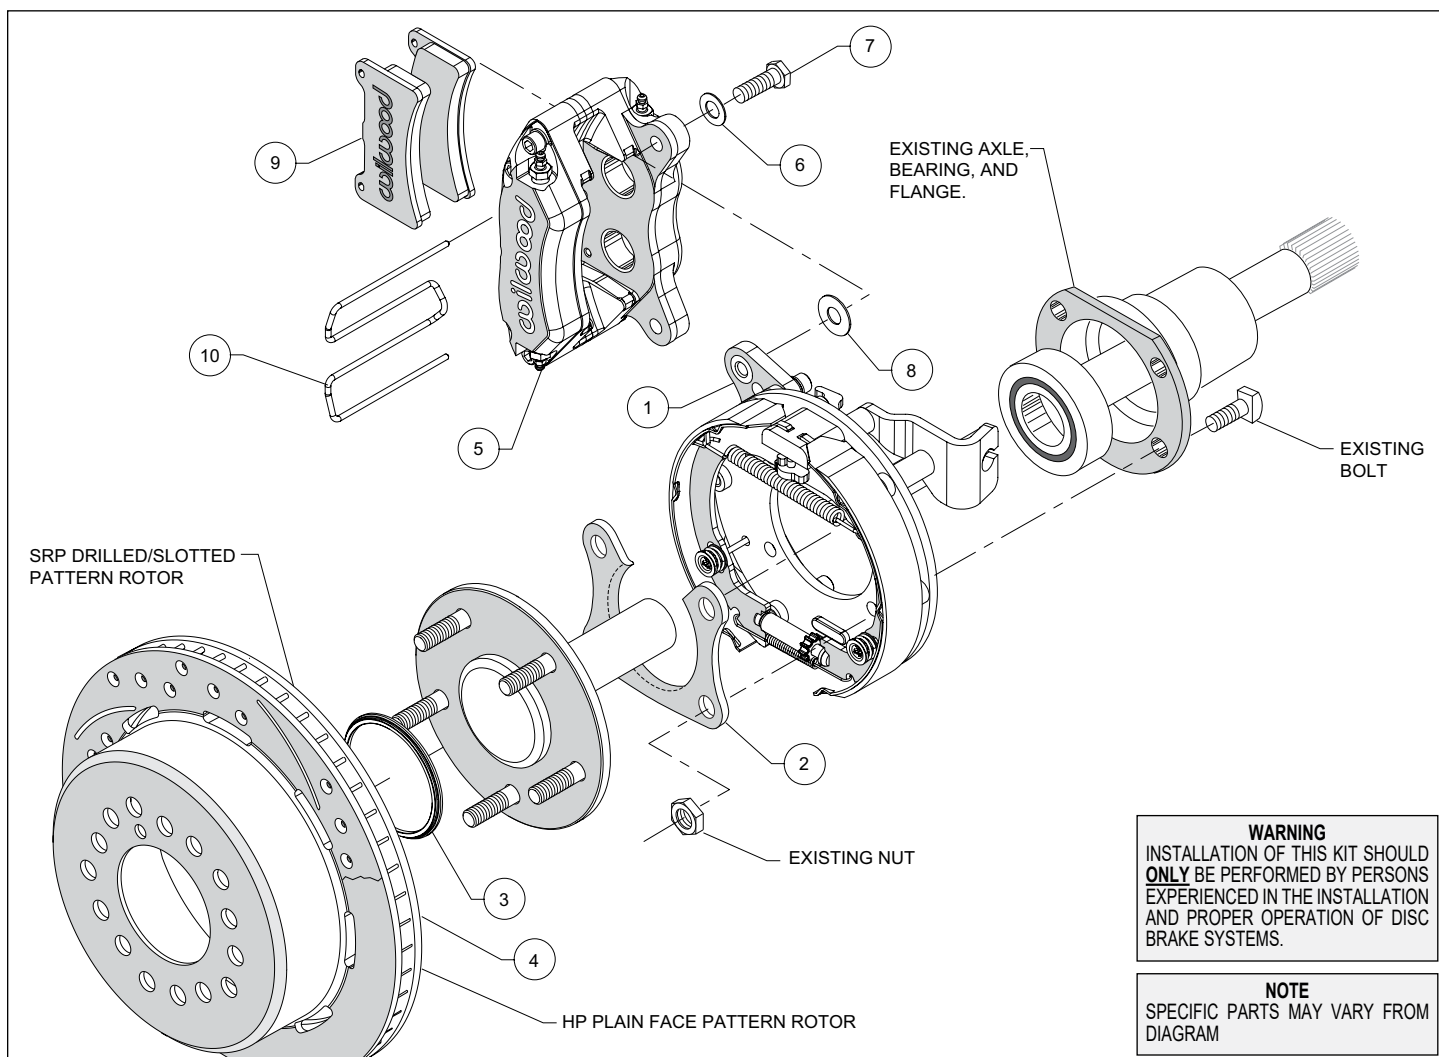
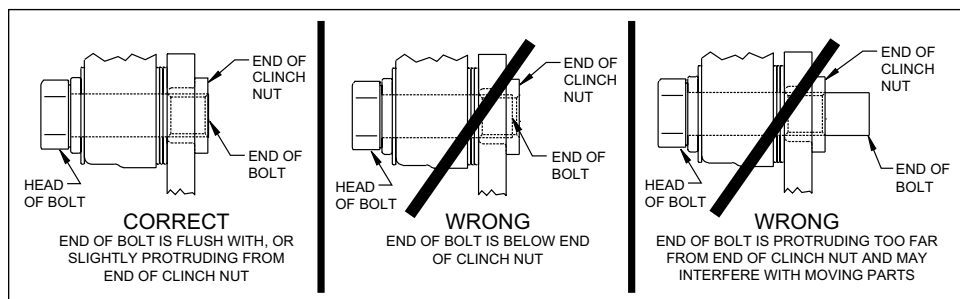

Figure 1. Typical Installation Configuration
Figure 5. Clinch Nut Engagement Diagram
NOTE: Numbers in parenthesis refer to the parts list and Figure 1 on the preceding pages.
CAUTION: All mounting bolts must fully engage clinch nuts. Be sure to check that all bolts are either flush or protruding through flanged side of clinch nut after shimming, Figure 5.
- Orient the bracket assembly (1) as shown in Figure 1 and Photo 1 and slide it onto the axle. Insert the axle and bracket into the axle housing. Ensure that the bracket assembly backing plate fits flush against the axle housing flange.
- Install the bearing retainer (2) with the opening pointing upward and the lip facing inward (toward the bearing), as shown in Figures 1 and 4, and Photo 2. Secure retainer and bracket assembly to the axle housing flange using the Original Equipment Manufacturer (OEM) bolts and nuts, Figure 1. Apply red *Loctite*® 271 to the OEM bolt threads and torque to OEM specifications.
•Slide the rotor registration adapter (3) onto the axle register on the axle flange with the smaller O.D. facing toward the rotor/hat (4), Photo 3. Align the correct hole pattern in the rotor/hat with the stud pattern on the axle flange and slide into place, Figure 1 and Photo 4. **NOTE:** The rotor/hat must fit flush against the axle flange or excessive rotor run out may result. Install three lug nuts (finger tight) to keep the rotor/hat assembly in place while continuing with the installation. **NOTE:** Some OEM and after market axles come with stud sizes larger than 0.50" diameter. Verify stud size and have a qualified machine shop drill the bolt circle of the hat/rotor to the correct stud size, if necessary.
•**NOTE:** Please reference the caution statement at the beginning of the assembly instructions. Mount the caliper (5) onto the caliper mounting bracket (1) using bolts (7) and washers (6), as shown in Figure 1. Initially place one .035" thick shim (8) on each bolt between the caliper and the bracket, Photo 5. Temporarily tighten the mounting bolts and view the rotor (4) through the top opening of the caliper. The rotor should be centered in the caliper, Photo 6. If not, adjust by adding or subtracting shims between the bracket and the caliper. Always use the same amount of shims on each of the two mounting bolts. **NOTE:** The end of each bolt must be flush with or slightly protruding from the head of the clinch nut, as shown in Figure 5. If necessary place spare shims between washer (6) and caliper mounting ear to achieve the proper clinch nut engagement. Once the caliper alignment and clinch nut engagement are correct, remove the bolts one at a time, apply red Loctite® 271 to bolt threads, and torque to 40 ft-lb.